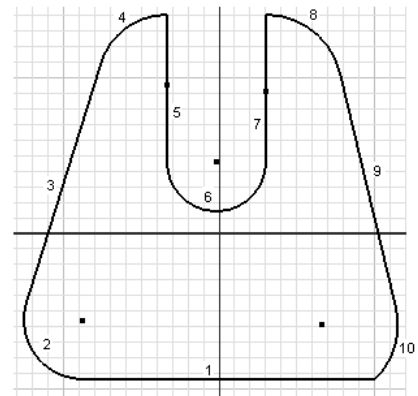

Figure 3-55 Profile with geometries numbered
- Start a new metric template and draw the outer loop of the sketch, refer to Figure 3-55.
- To draw the outer loop, invoke the **Line** tool from **Draw** panel in the **Ribbon**, as shown in Figure 3-55.
The outer loop that you created in the previous step might be different from the one shown in Figure 3-55. You can find the missing constraints by following the next step and apply constraints accordingly.
As evident from Figure 3-55, some of the constraints such as tangent and equal are missing in the sketch. The sketch shown in Figure 3-55 may not be symmetrical and all the lines in the sketch may not be tangent to the arcs. Therefore, you need to add these missing constraints manually to the sketch to complete it. You can choose the **Show Constraint** option from the Marking Menu that is displayed when you right-click in the graphics window.
1. In Figure 3-55, the **Tangent** constraint is missing between line 1 and arc 10. To add this constraint between the line and the arc, choose the **Tangent** tool from the **Constrain** panel of the **Sketch** tab; you are prompted to select the first curve. Select arc 10 as the first curve; you are prompted to select the second curve. Select line 1 as the second curve. Similarly, add this constraint to all places in the sketch wherever it is missing.